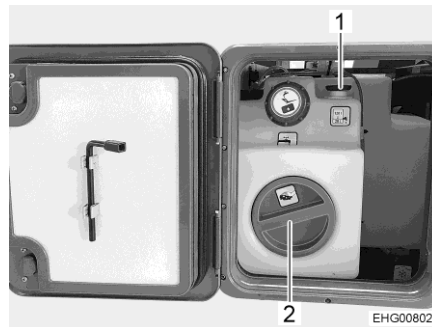

Fig. 185 Water tank with rotary handle
- Turn the rotary handle (Fig. 185,1) on the water tank in a clockwise direction as far as it will go.
- Turn the rotary handle (Fig. 185,1) on the water tank in an anticlockwise direction as far as it will go. The water drains away except for a residual amount of 20 l.